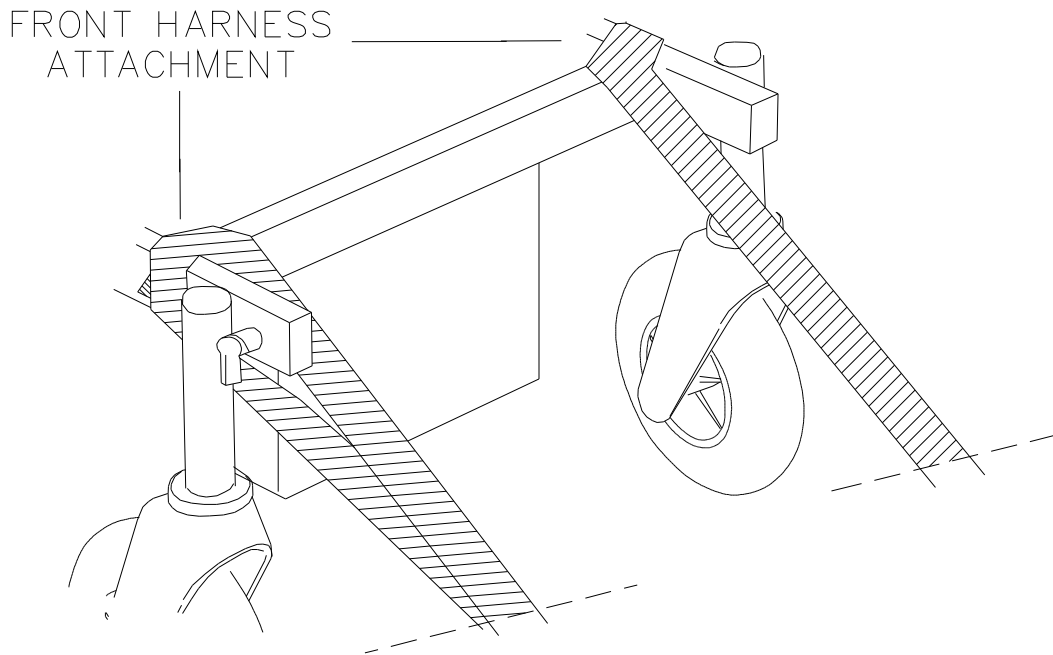
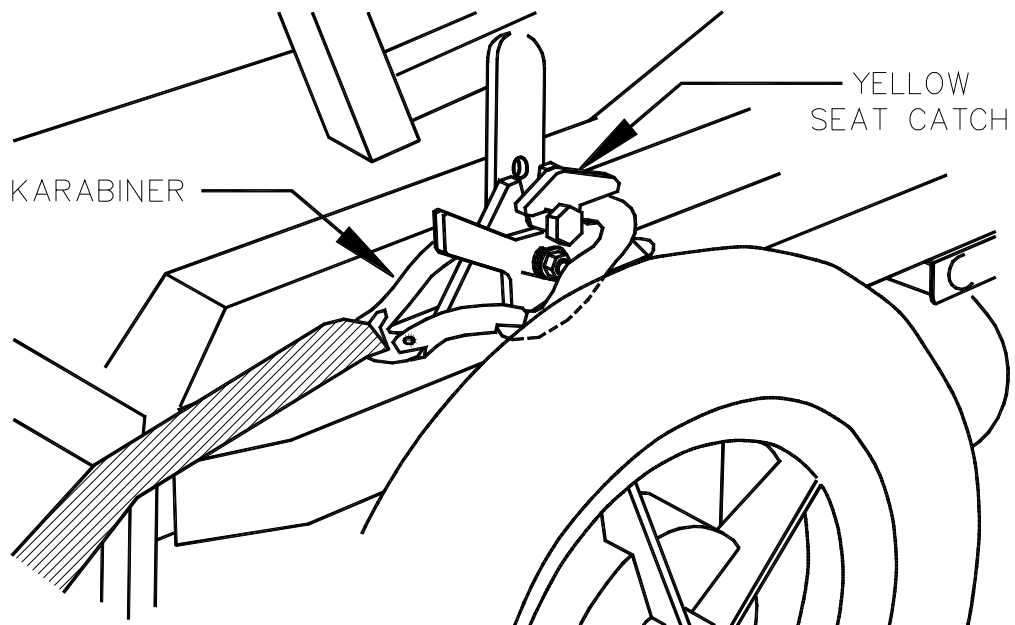

FIG.11.
FIG.12.
- (A) Position the wheelchair over the rails and apply the foot-operated brakes.
- (B) Attach front restraints to the rail so that the buckles 'press' point outwards.
- (C) **CUB** Model (see Fig. 11).
- (D) Take the harness tongue over the front frame tube, then down and behind the castor mounting, under the side frame tube and forwards before securing into the buckle. Repeat for the other side.
- (E) Attach the rear karabiners to the Restraint/Seat Mount (indicated by the yellow seat latch), with the karabiner latch opening pointing outwards.
- (F) Ensure that the karabiner is registered in the slot provided. (See Fig. 12)
- (G) Follow manufacturers Restraint Instructions to finish securing the wheelchair.
- (H) Apply the passenger restraint (inertia belt)
- (I) Reverse above procedure to release the wheelchair.